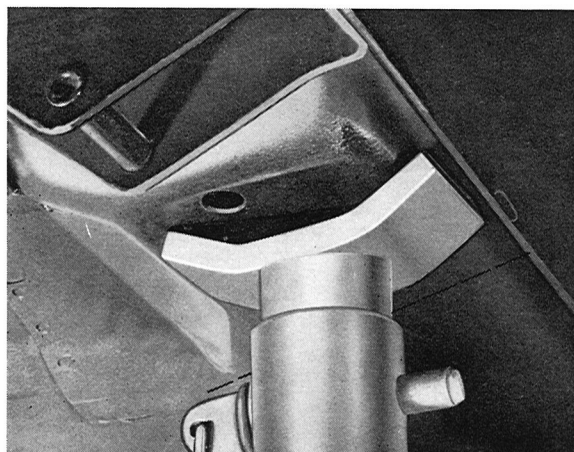

Fig. 7-3. Rear stand location
1. Remove the hub cap and loosen the wheel nuts a couple of turns. Jack up the vehicle. Place stands in front of the rear jack attachments according to Fig. 7-3. Remove the wheel.
1. Remove the hub cap. Slacken the wheel nuts a couple of turns. Jack up the rear end of the vehicle at the jack attachments. Place stands in front of the jack attachments according to Fig. 7-3. Remove the wheel. Remove the shock absorber.
1. Jack up the car and put stands according to Fig. 7-3. Do not remove the jack.
1. Jack up the rear end of the vehicle and place stands in front of the rear shock absorber attachments according to Fig. 7-3.